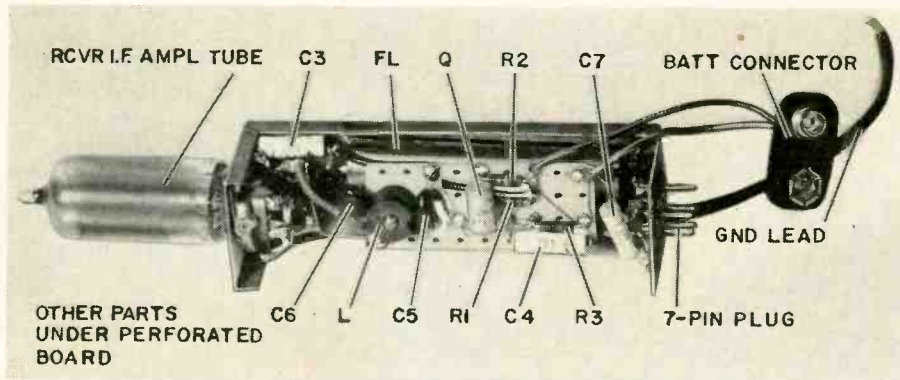

Fig. 5—Internal construction of adapter. Modifications are possible, but follow suggestions in text.
- Case—see text, Fig. 5 and photograph
Cut out and bend a piece of brass or copper sheet stock similar to the mounting bracket in Fig. 5. A socket and base plug similar to the type in your receiver's first i.f. stage are mounted in the bracket ends. The inner shield, also sheet copper or brass, is cut and mounted in such a position that it will isolate the mechanical filter and transistor amplifier circuit from the interconnecting wiring.
The unit shown in Fig. 5 and on the cover was designed to plug into the smallest practical space, such as the first i.f. stage of the HQ-100 receiver. The outside dimensions are 1 x 1 x 3 1/2 inches. In many cases, especially where the receiver uses octal tubes, more space is available. Small plug-in chassis with socket and plug attached, such as the ones manufactured by Vector Electronic Co., Glendale, Calif., are commercially available at most radio supply stores and may be a more convenient housing for the adapter. In all cases, the short lead from the grid pin of the plug to the parallel tuning capacitor on the mechanical filter input should be decoupled as much as possible from the other leads to the plug by a well located inner shield.